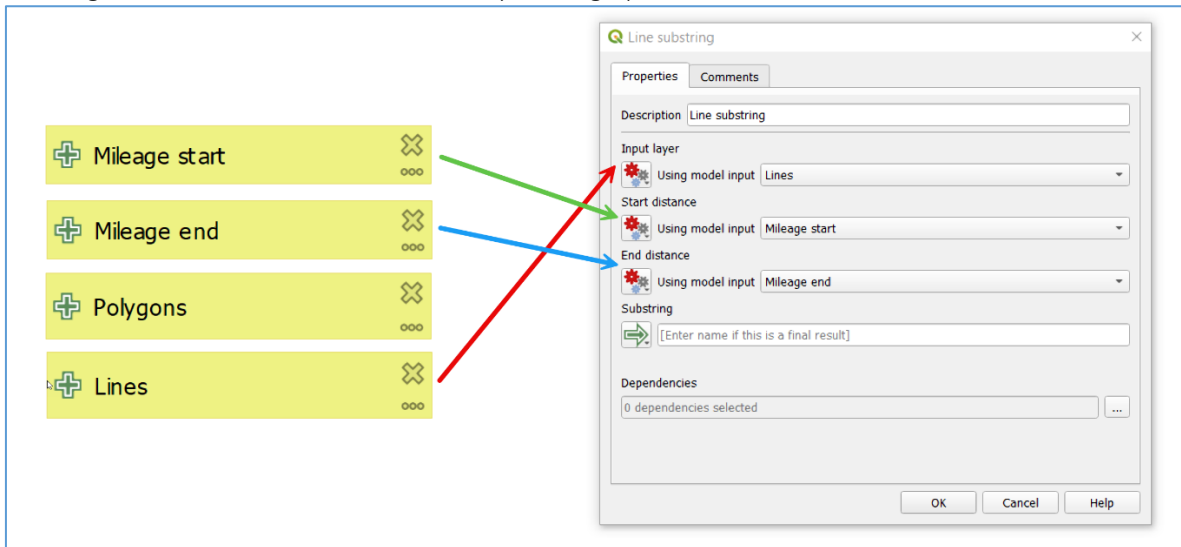

Fig. 7. When using algorithms inside Model Builder, make sure to correctly setup the inputs to refer to model inputs.
- Repeat the process for *end distance* (Fig. 7);